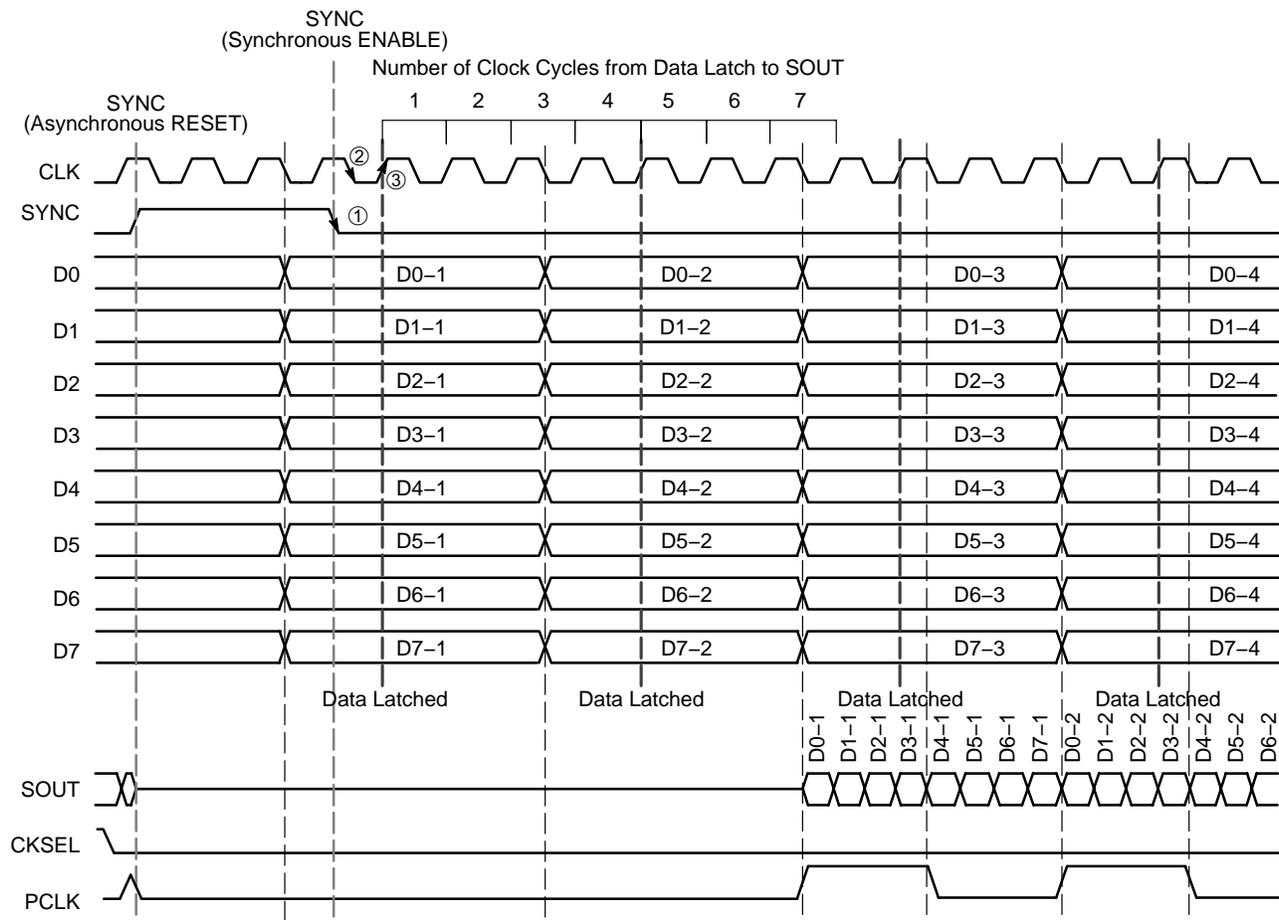

Figure 8. Timing Diagram 1:8 Parallel to Serial Conversion with CKSEL LOW and SYNC
The device also features a differential SYNC input (Pins 29 and 30), which asynchronously reset all internal flip-flops and clock circuitry on the rising edge of SYNC. The release of SYNC is a synchronous process, which ensures that no runt serial data bits are generated. The falling edge of the SYNC followed by a falling edge of CLK initiates the start of the conversion process on the next rising edge of CLK (Figures 8 and 9). As shown in the figures below, the device will start to latch the parallel input data after the a falling edge of SYNC ①, followed by the falling edge CLK ②, on the next rising edge of edge of CLK ③ for CKSEL LOW